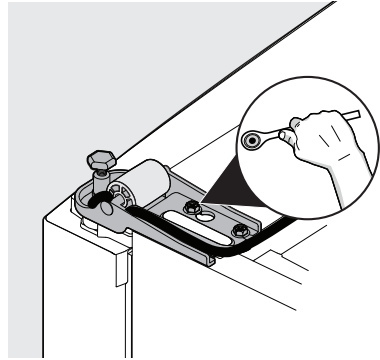

Figure 4
- Remove the bottom hinge using 5/16" (8mm) wrench (see Figure 4).